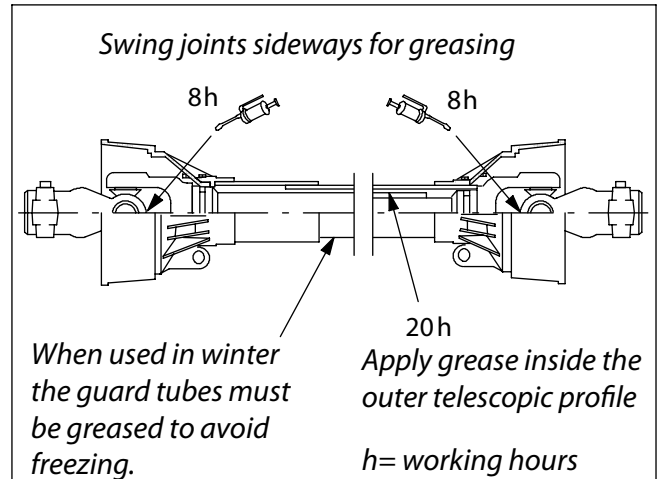

Fig. 15. PTO shaft lubrication
3. Grease the PTO-shaft regularly and always before use as shown in figure 15.